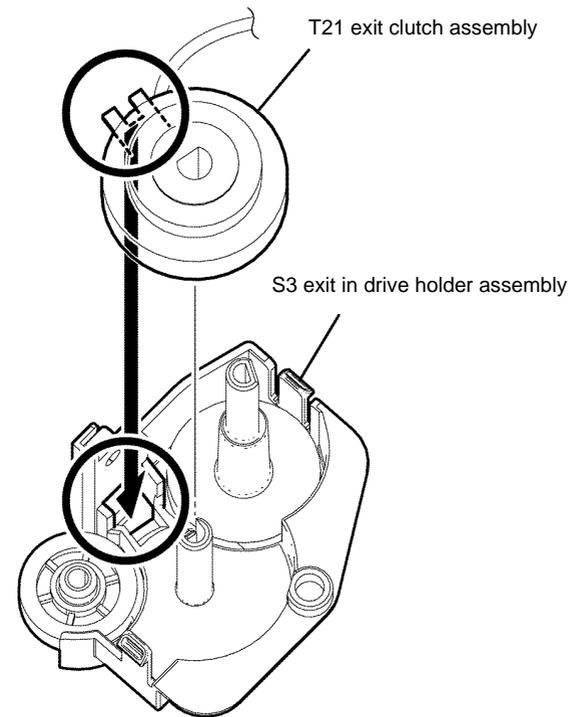

Figure 5 T21 exit clutch assembly installation
2. When installing the T21 exit clutch assembly, fit the tab into the stopper of the exit in drive holder assembly, Figure 5.